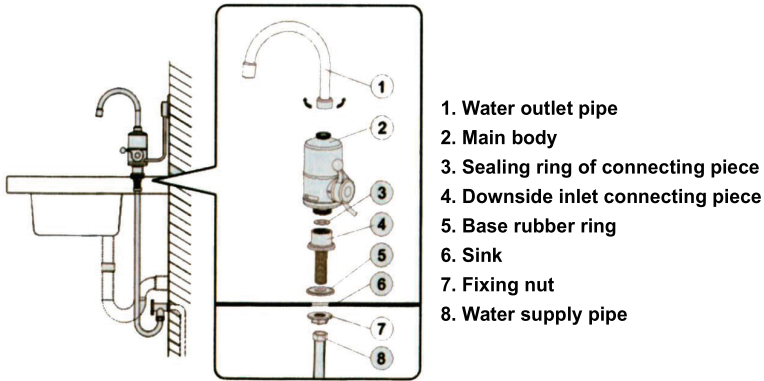
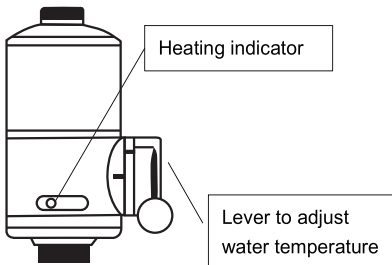

Fig. 02
Fig. 03
### - ASSEMBLY (Refer to step 1-7, Fig. 02 and Fig. 03 )
2. Depending on the position of the level you can choose between cold, hot and stop positions (Fig. 03 and 04). When the lever is pushed upward, the flow of cold water can be increased; pushing the lever down increases the flow of hot water. With the increase of the flow rate, the water temperature may at first decrease then after a few seconds the desired hot water will flow from the tap.